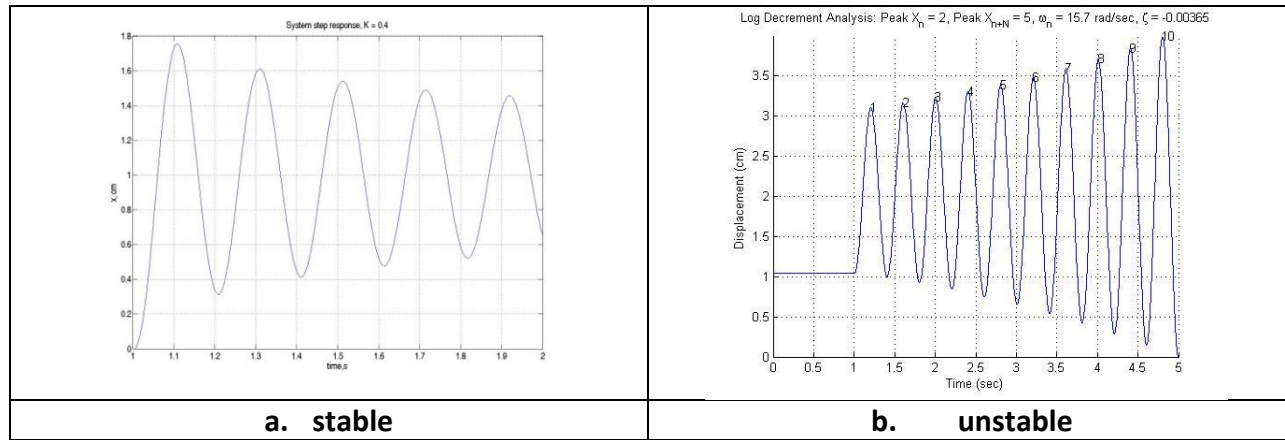

Figure 1: System Sample Step Responses
2. Use the Simulink model, **Model210_PControl.mdl** to get the step response data. First, find the largest gain value to cause marginal stability or slight instability then choose twenty values below this critical gain. **Be careful when you get close to the critical gain; be prepared to stop the simulation immediately so that you don't damage the system!** As a point of reference, for my system the range of values was between 0.02 and 0.5. Figure 1 provides two examples of the step response right before and right after it becomes unstable.